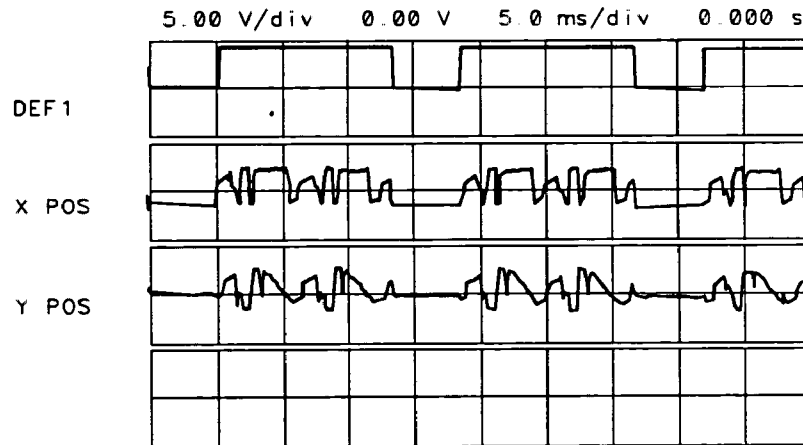

Figure 10-11. DEF1 Synchronization
6. In Figure 10-11, there is no synchronization between DEF1 and the video patterns X POS and Y POS when DEF1 is TTL high. *Remove jumper, set CRT Adj. Pattern*